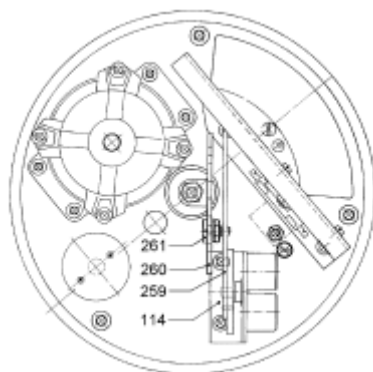

Figure A9: Switching and signalling device
After the assembly of the linear actuator with the control element has been effected acc. to Chapter 7, mount the separate or previously removed adjusting lever (see figure A9 and A10):
- Move linear actuator into end position of “driving rod being moved out” by manual operation, until the DE-switch S1 switches; the adjusting lever [260] (see figure A9) and the tappet lever [259] must be parallel in their inclined position